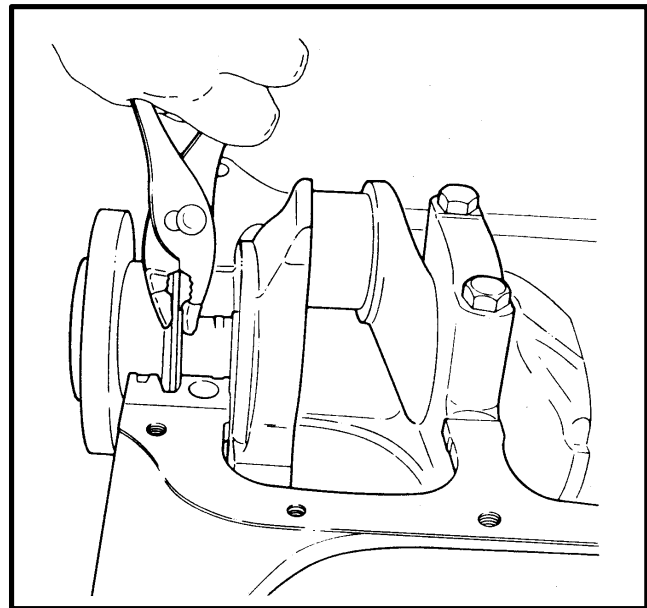

FIGURE 34. REAR MAIN BEARING REPLACEMENT
- b. Put some tape on a pair of pliers to make soft jaws. Use the pliers to hold the thrust surface of the bearing to the oil control ring of the crankshaft. See **FIGURE 34**. Turn the crankshaft to remove the upper bearing half.